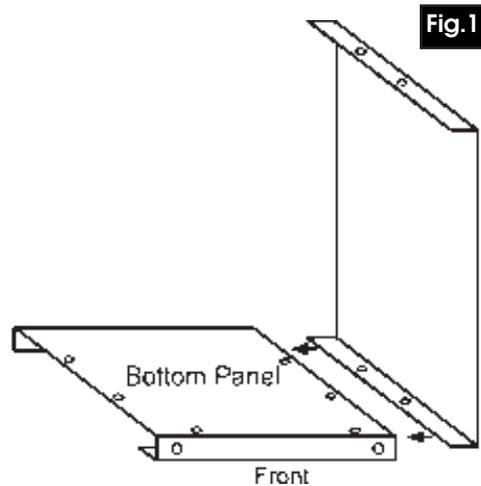

Fig.1
1. Top and bottom panels are identical, (as are the side panels). The FRONT of each panel is that end where a channel is formed, as shown in fig.1.